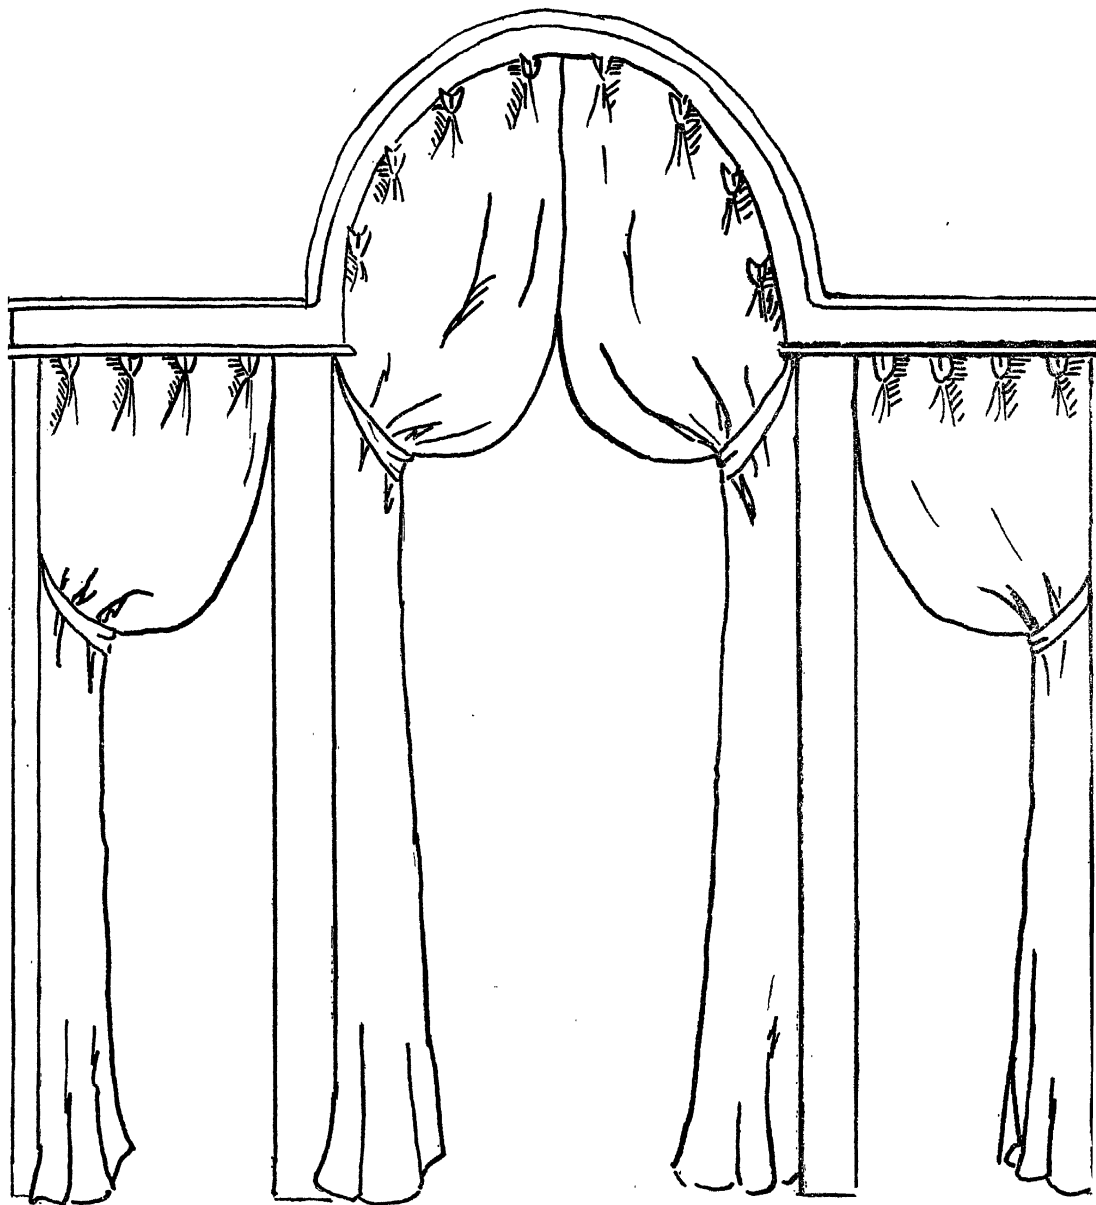
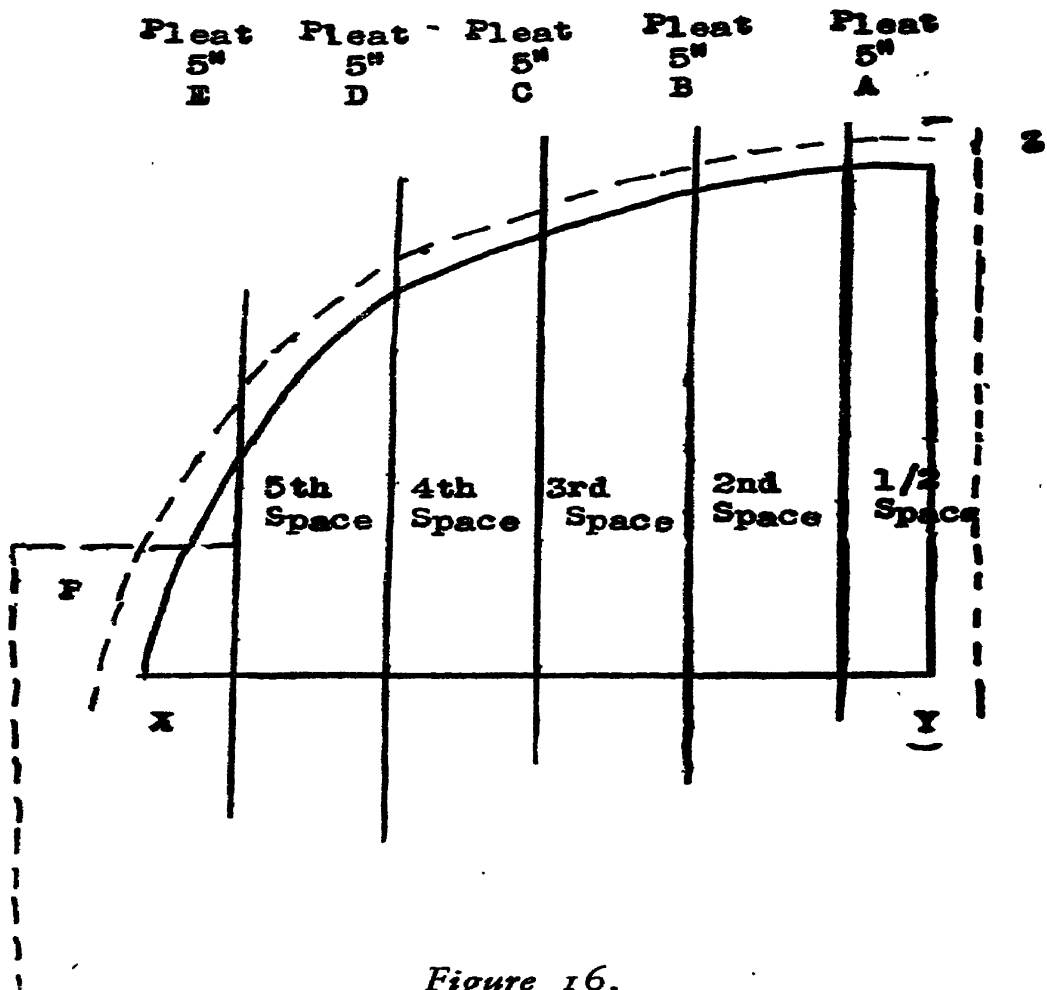
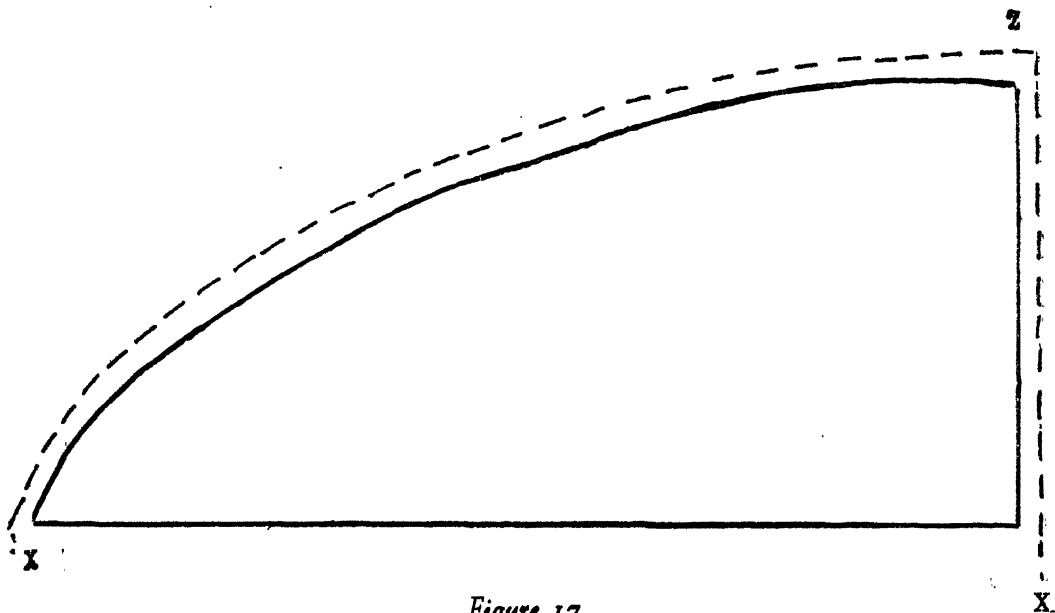

Figure 15.
Figure 16.
Figure 17.
THERE ARE MANY ARCHED TOP WINDOWS, especially in banks, hotels and restaurants. Georgian houses frequently have Palladian windows over the entrance door, or at the stair landing, the center of the group of three being arched. See Figure 15.
There are three considerations in making a pattern for this type of window—the width of the window at the spring of the arch, X-Y, Figure 16 (this represents one-half of the window, the space to which one single drapery of the pair will be fitted); the width of the material, and its weight.
*The complete pattern for cutting to fit the arch, Figure 16.
Line X-X is twice the width of X-Y of Figure 16. The
As the pleats are to be equal distances all around the arch and we do not want two pleats together at the center of the window, we will use a space at that point. The spaces being 5 inches wide, this space will be divided into $2\frac{1}{2}$ inches for each side, plus hem allowance. The first pleat of each side drapery, therefore, starts $2\frac{1}{2}$ inches in from the center of the arch, Figure 16.
Diagram showing how much material is required for draping the curtain up as in Figure 15. The distance A-B is added to the bottom of the drapery at E-F, after allowance is made for hems.
The number of pleats can be estimated by measuring the line X-Y and dividing by five, the amount of space allotted for each pleat. If the line is 24 inches, for instance, this would give four pleats, plus 4 inches over for side hem allowance. There may be a certain amount left over at the far left of the left-hand curtain and the far right of the right-hand curtain, which will not be sufficient for another pleat. This may be greater or less, depending upon the width of the line X-Y and how it can be divided by five. This unevenness will not make any difference when the space is not large, as you will note by referring to the finished drapery, Figure 15. It merely brings the last pleat nearer or farther away from the spring of the arch, X. However, if the space left over after the pleats have been allotted is nearly enough for another pleat, the space will be too great to leave, as it will bring the last pleat too far up from the spring of the arch. An addition to the full length of the drapery should be made so that another full pleat can be set in. See addition P, Figure 16. The amount added should be enough to complete the pleat and leave a slight margin over.
We now have the spaces marked off and we must make allowance for the pleats. This necessitates another pattern. Draw a line representing twice the length of X-Y if you are using 100% fullness, Figure 17. Also, draw line Y-Z, which is the radius of the arc and is the same as in Figure 16.
Now draw the arc connecting X to Z. This represents the exact pattern for cutting the material to be pleated up to fit Figure 16. Allowance for hems should be made as indicated by the dotted lines.
Lay the drapery, which has already been hemmed and completed, on the pattern Figure 16, the finished hem Z-Y in alignment with Z-Y on the pattern. Pin this securely to prevent slipping.